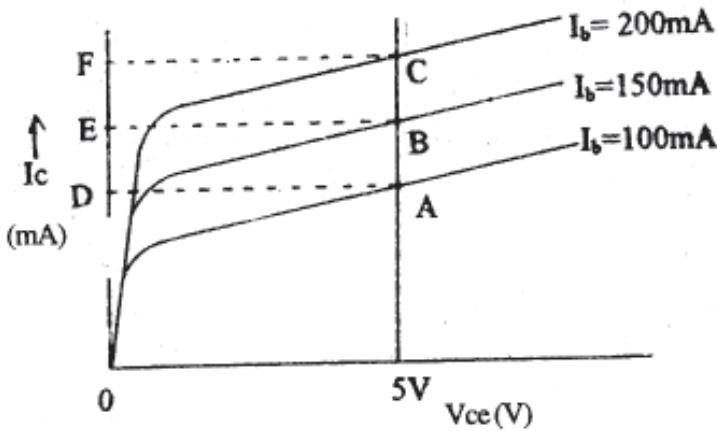

Fig. 27.7
- (iii) Plot graphs from the data recorded in above three tables. The graphs obtained and shown in fig. 27.7. These are the characteristics of CLI 00 in CE mode. At low V_{ce} a fraction of charge carriers injected into the base region are collected by the collector and hence I_c is small. As V_{ce} increases more and more carriers get collected, hence I_c rises rapidly. When all the carriers have been collected I_c becomes nearly constant. This explains the shape of the characteristics curves.
- (iv) To find the current amplification factor β of the transistor draw a vertical line perpendicular to V_{ce} axis at say - 5V point. Let it cut the three curves at A, B and C as shown in Fig. 27.7. Now from points A, B and C draw perpendiculars on the I_c axis. Let these meet the axis at points D, E and F as shown in Fig. 27.7.
iv) From your experimental curves (Fig. 27.7) find out how will β change with V_{ce} .